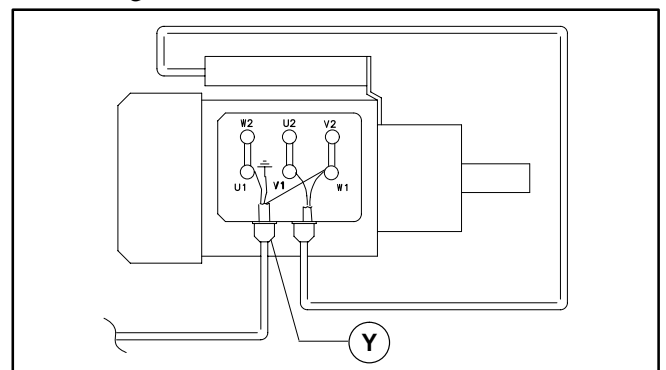

Figure 15
- b. Record wire colors on terminals U1, W1 and ground (\perp) (Figure 15). Loosen terminals U1, W1 and ground and remove wires.
- c. Loosen cord grip (Y of Figure 15) and remove cord.